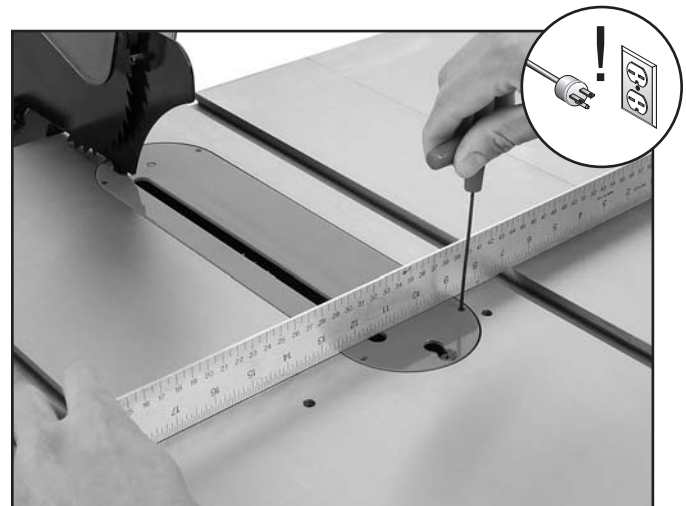

Figure 12. Adjusting the table insert.
3. Use a hex wrench to adjust the table insert flush with the table by rotating the setscrews as shown in **Figure 12**.